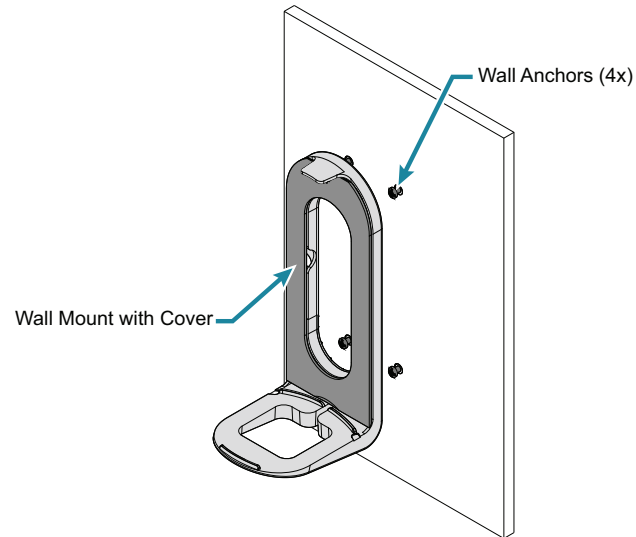

Figure 2. Wall Mount Ready for Device
7. Secure the wall mount cover plate (snap-in). See Figure 2.